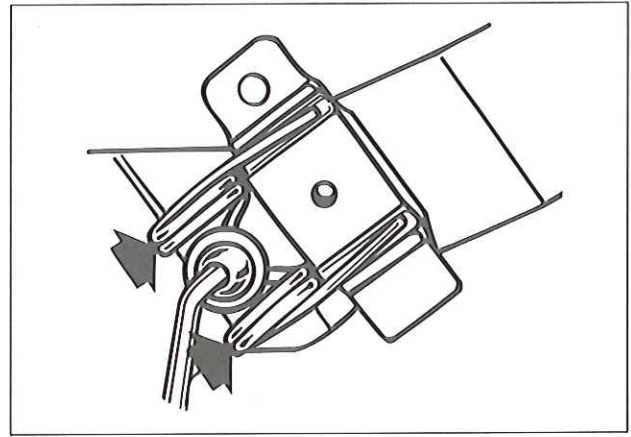

FIG. 49
7. Install the slave piston assembly torsion spring with the ends over the bridge (see Fig. 49).